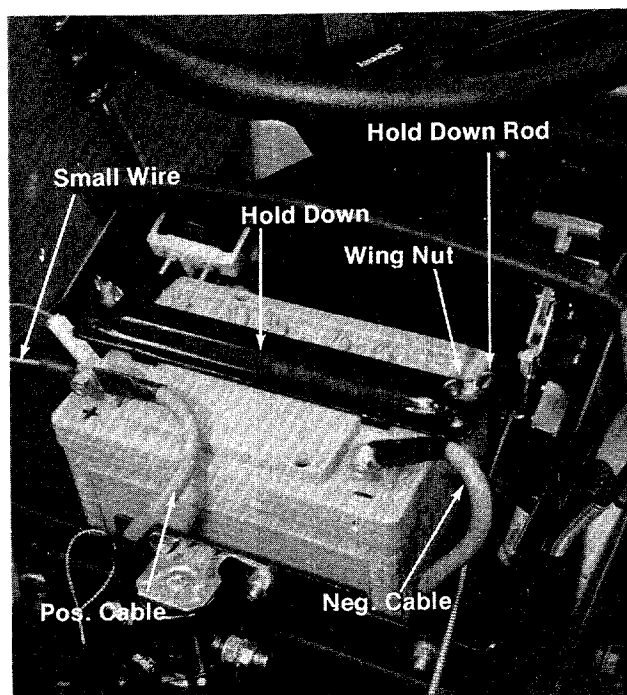

**FIGURE 4.**
2. Place the battery in the battery case with the terminal to the front. See figure 4.
4. Push the rubber tubing into the manifold of the battery and place the other end into the drain tube. See figures 4 and 5.